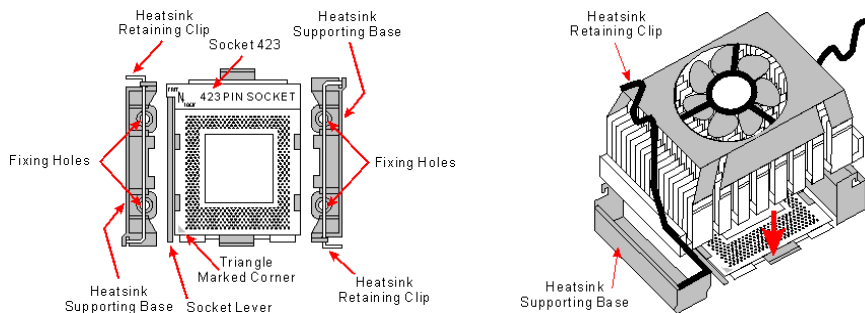

Figure 2-3. Installing P4 CPU and its heatsink into supporting base.
This motherboard provide a ZIF (Zero Insertion Force) socket to install the Intel® Pentium® 4 CPU. Its installation is the same as Socket 370 or Socket A, only a tiny difference on heatsink installation. The CPU you bought should had a heatsink and fan along with. If that's not the case, buy one specially designed for Pentium® 4. Please refer to figure 2-3 to follow these steps:
3. Align the CPU heatsink supporting-base through its fixing holes over the holes on motherboard to the studs or spacers that had already installed on the chassis. Use the screws that came with this heatsink supporting-base to fasten onto motherboard. Here you have to watch out for the direction of the supporting-base, please refer to figure 2-3.